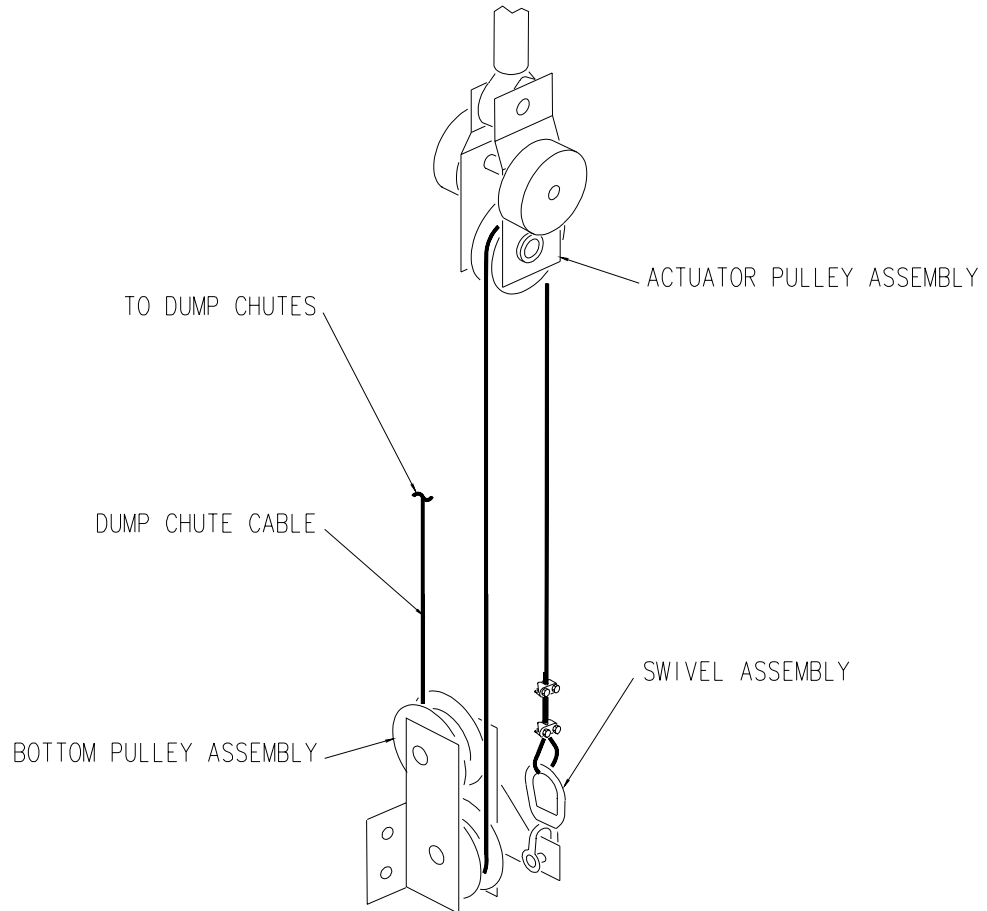

Figure 14.
2. Route cable as shown in Figure 14.